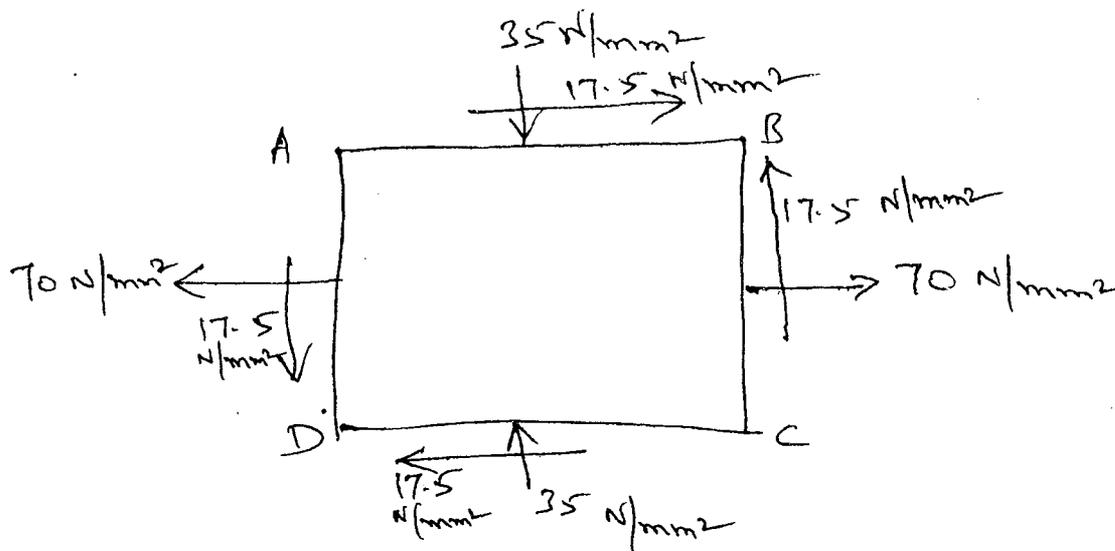

Fig. Q 14 (a)
14. (a) The normal and shear stresses acting on the two planes AB and BC are shown in Fig. Q 14 (a). Determine the principal planes and principal stresses. Also determine the maximum shear stress